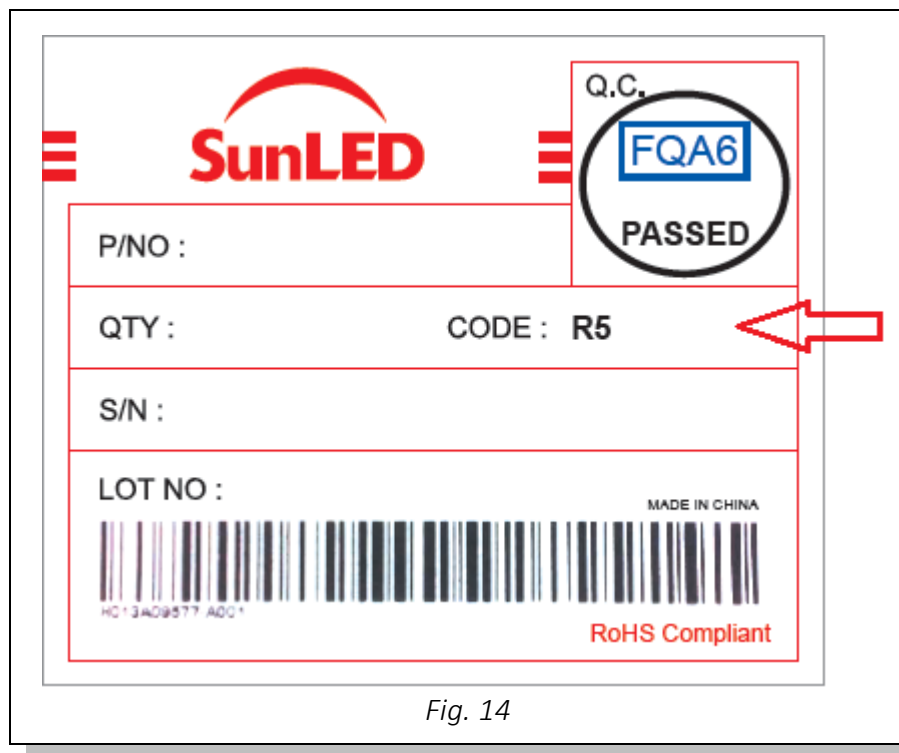

Fig. 14
4. SunLED products are bin sorted for intensity and wavelength. To ensure intensity and color consistency when using multiple LEDs in an array, it is recommended to use parts within the same bin code. Each bag, reel, or tube of LEDs contain a single intensity and wavelength code and is indicated on the part number label. Refer to below diagram (Fig. 14) for bin code identification and reference bin code documentation for specification data.